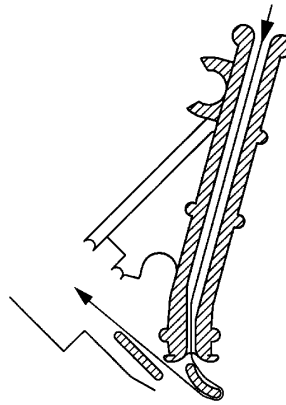
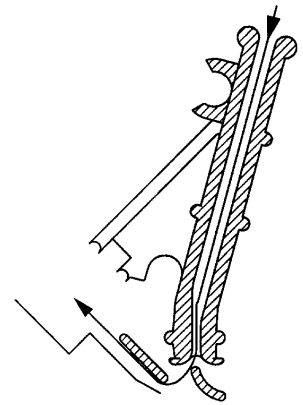

Figure 5
Figure 5a
5. Thread labels into the ATS-9600/9700 following the LABEL THREADING DIAGRAM [Figure 5].
9. Make sure the label peels off straight and is parallel with the peeling edge [Figure 3C] and [Figure 5].
5. Thread the tabs into the ATS-9600/9700 following the TAB THREADING DIAGRAM Figure 5 a].
9. Thread the stamps into the ATS-9700 following the LABEL THREADING DIAGRAM [Figure 5].
2. Thread labels into the labeler following the diagram [Figure 5 or Figure 5A].